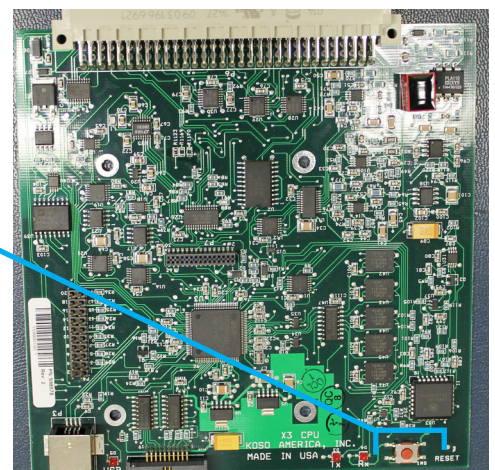

Figure B.5-2 Reset Switch
With Position Hi on the display, press the (E)NTER key. = will begin to blink. Using the Scroll Up and Scroll Down keys, position the actuator to the desired Extend point and press (E)NTER again. The displayed value will be recorded as the Position Hi endpoint. When calibration is complete, and before returning to “AUTO” mode, depress the RESET button located on the top of the REXA CPU board. This will set the new seated value as the SLC target. See Figure B.5-2.